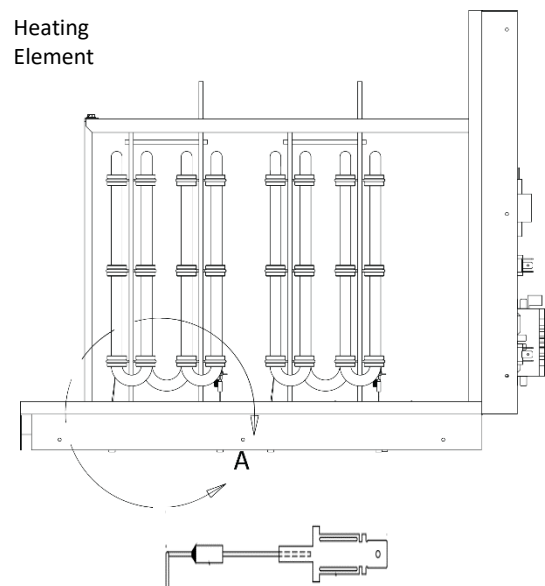

FIGURE 24 – Non-Resettable Fuse Link
The electric heater is equipped with auto-reset temperature limit switch (**FIGURE 23**) and non-resettable fuse link (**FIGURE 24**). If an abnormal situation such as low airflow due to dirty/clogged air filter, air leak or no airflow due to failed motor, causes the supply air temperature to rise above acceptable limit, the auto-reset limit switch will interrupt the power to the heating elements. Once the heating elements cool down, the limit switch will close and the power to the heating elements will be restored. The heater will resume operation. If the auto-reset limit switch fails to react and is permanently closed, the non-resettable fuse link will activate to cut off the power to the heating elements permanently. The heater will stop working until the fuse link is replaced by a certified technician or agency. See MAINTENANCE & SERVICE- ELECTRIC HEAT section for replacement procedure
3 kW and 5 kW heaters have one heating element. 7 kW and 10 kW heaters have two heating elements. Each heating element is connected to one fuse link. Refer to **FIGURE 24**. If heater is overheated and auto limit switch fails to react, the fuse link will permanently open and cut off the power to the electric heater. In this case, the fuse link must be replaced in order for the heater to work again. Following below procedures. Follow below procedures.
- 5) Replace the broken fuse link. Refer to **FIGURE 24 – Non-Resettable Fuse Link**
- 7) When reinstalling the heating module, make sure the rod is inserted into the hole on the heater support panel. Reinstall heating module and screws (4).
The electric heater is protected by auto-reset temperature limit switch and non-resettable fuse link for low airflow or no airflow caused by dirty/clogged air filter or motor failure, refer to **FIGURE 23** and **FIGURE 24**.